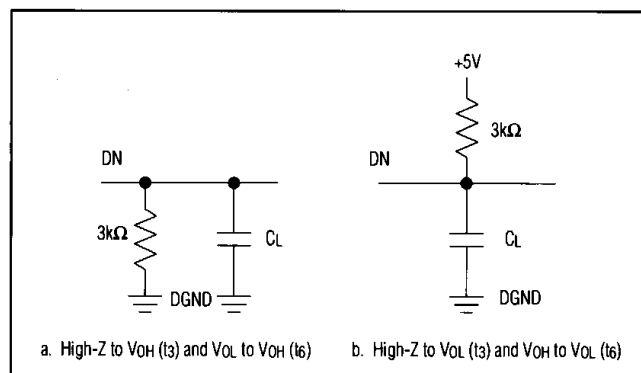

Figure 1. Load Circuits for Access Time
**Note 5:** t3 and t6 are measured with the load circuits of Figure 1 and defined as the time required for an output to cross +0.8V or +2.4V.